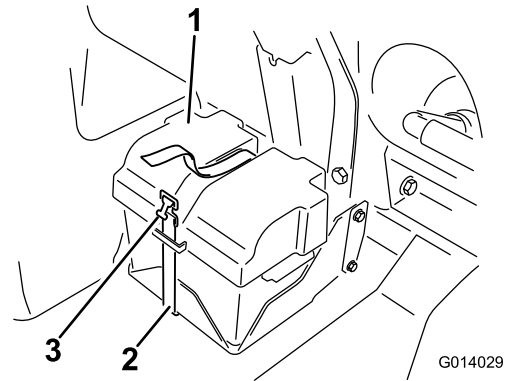
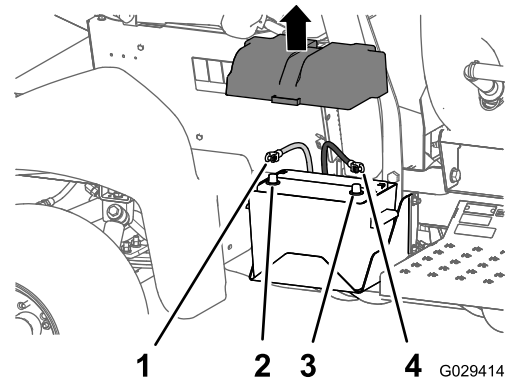

Figure 1
Figure 2
3. Remove the battery cover and disconnect the negative (black—ground) cable from the battery post (Figure 1 and Figure 2).
4. Disconnect the positive (red) cable from the battery post (Figure 2).